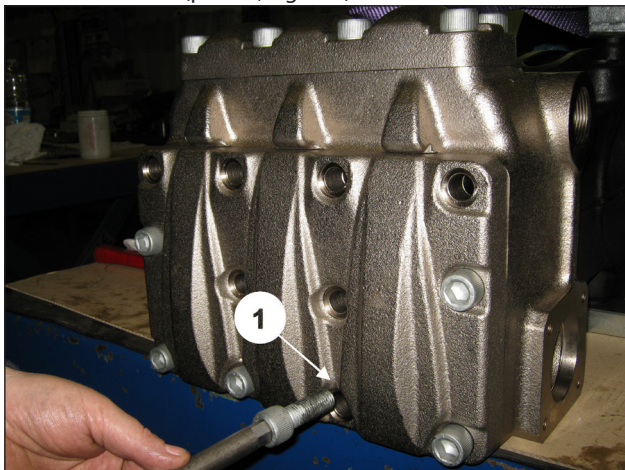
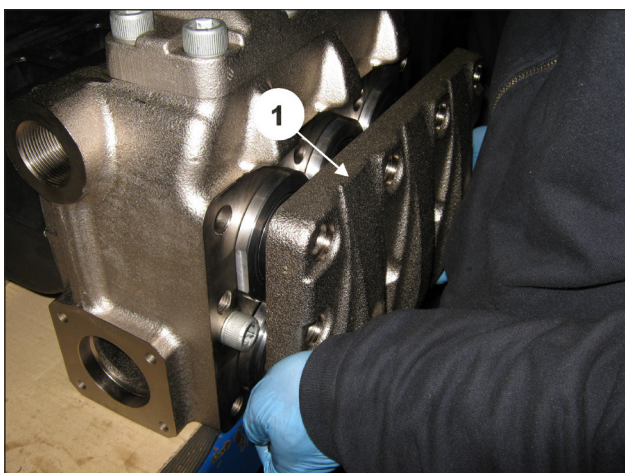

Fig. 103
Fig. 104
Unscrew the 6 M16x45 screws of the suction valve cover (pos. ①, Fig. 103) and then undo the 6 M16x200 screws. Now remove the cover (pos. ①, Fig. 104).